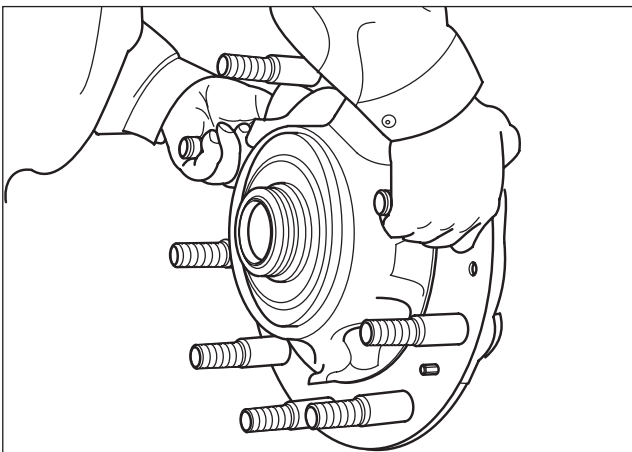
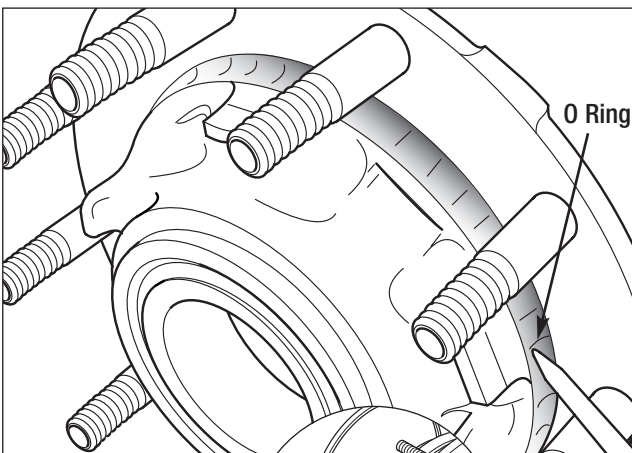

Fig. 2.13
Fig. 2.14
5. Remove the hub (Fig. 2.13) and check the green o-ring in the back side. - Fig. 2.14